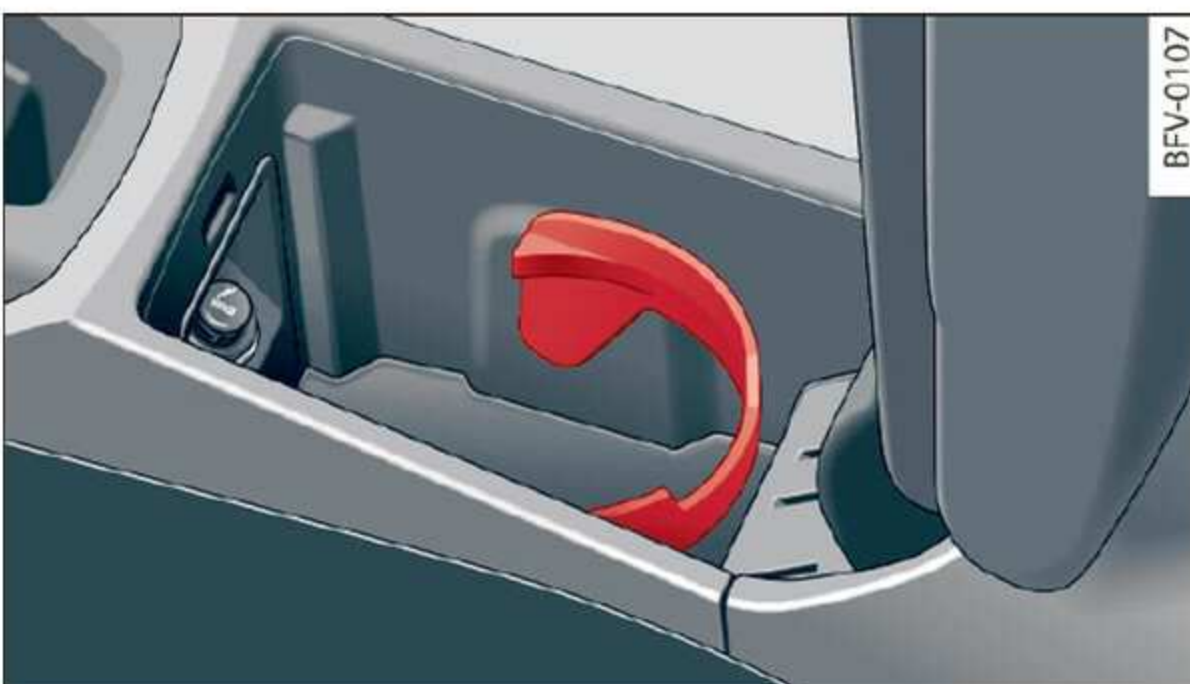

Fig. 53 Center armrest folded up: cup holder
- ▶ Fold the plastic bracket toward the rear, if necessary ⇒ *fig. 53*.